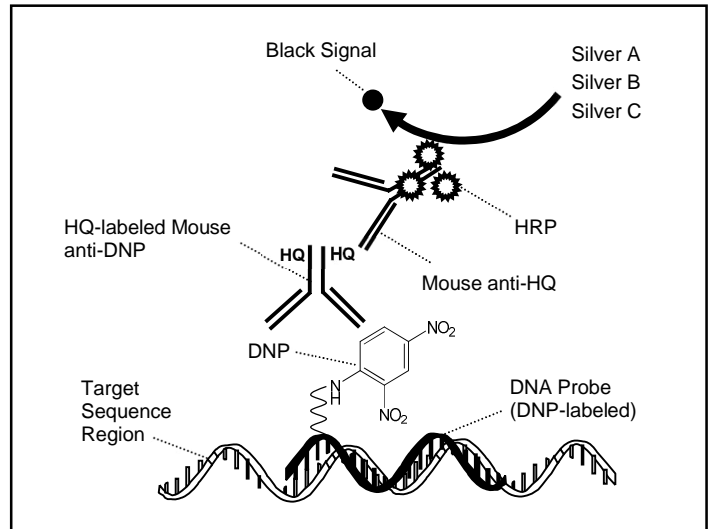

Figure 1. VENTANA Silver ISH DNP Detection
VENTANA Silver ISH DNP Detection Kit detects DNP-labeled probes bound to a specific sequence in formalin-fixed, paraffin-embedded (FFPE) tissue sections. The detection kit contains a primary antibody and an enzyme-labeled secondary antibody conjugated to horseradish peroxidase (HRP) which is used as the chromogenic enzyme. During the ISH staining process, DNP probes are co-hybridized to their respective specific target DNA sequences within the cell nuclei. VENTANA Silver ISH (SISH) DNP Detection Kit contains the following dispensers: mouse anti-DNP primary antibody labeled with hydroxyquinoline (HQ), mouse anti-HQ secondary antibody conjugated to horseradish peroxidase (HRP), Chromogen A (Silver A), Chromogen B (Silver B) and Chromogen C (Silver C). Following incubation with the HQ-labeled mouse anti-DNP primary antibody and then mouse anti-HQ HRP secondary antibody conjugate, the SISH reaction occurs. Briefly described, this reaction is driven by the sequential addition of Chromogens A (silver acetate), B (hydroquinone) and C (H2O2). Here, the silver ions (Ag+) are reduced by hydroquinone to metallic silver atoms (Ag0). This reaction is fueled by the substrate for HRP, hydrogen peroxide (Chromogen C). Figure 1 illustrates the SISH reaction. The specimen is then counterstained with Hematoxylin II for interpretation by light microscopy. The staining protocol consists of numerous steps in which reagents are incubated for pre-determined times at specific temperatures. At the end of each incubation step, the BenchMark IHC/ISH instrument washes the sections to remove unbound material and applies a liquid coverslip which minimizes the evaporation of the aqueous reagents from the slide. Results are interpreted using a light microscope and aid in the differential diagnosis of pathophysiological processes, which may or may not be associated with positive staining for the probe.